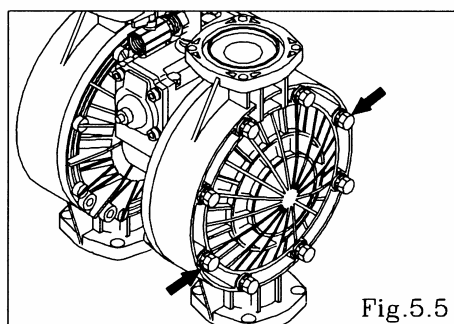

Fig.5.5
- Remove the 16 (24 on the NDP-80) retainer bolts from the out chamber, and remove the out chamber. [Fig.5.5]